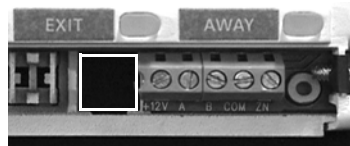

Figure 4. Wire Access Area
7. Mark the area just left of the screw terminals (white outlined square in Figure 4). This is where you need to route wiring to the touchpad.